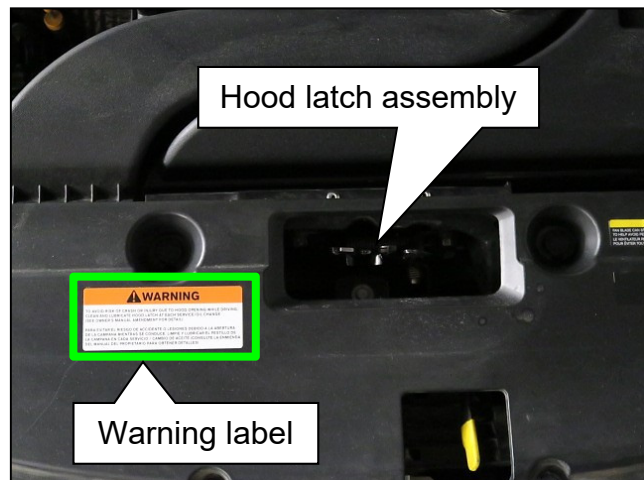

Figure 14
18. Apply the warning label from the hood lock kit in the **PARTS INFORMATION** table in the location shown in Figure 14.